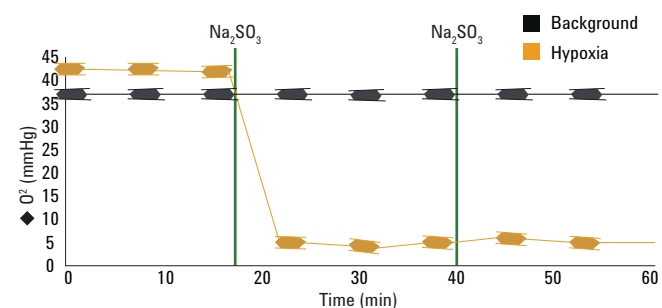

Figure 8. Hypoxia group O₂ levels after recalculation 0 \pm 5 mm Hg O₂.
- a. Hypoxia group wells should be zero (± 5 mm Hg) (Figure 8).